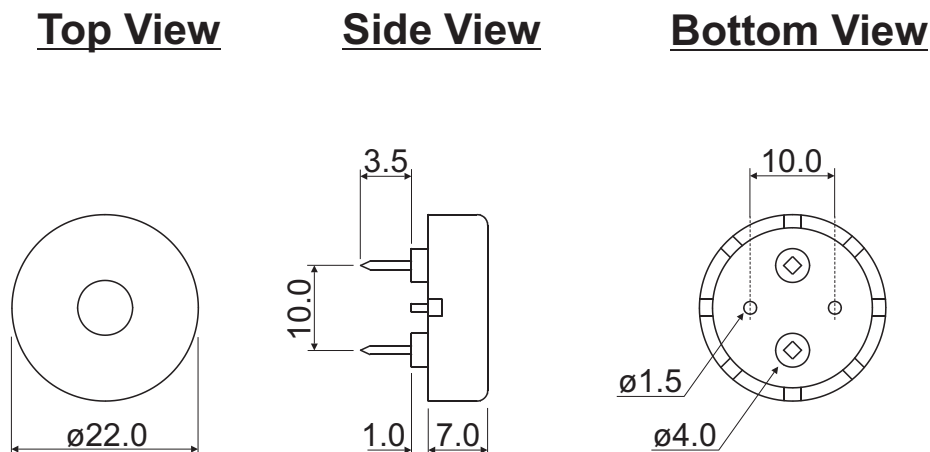

Figure 2. HPA22F Mechanical Layout
- 4.3.1. Layout and Dimension : See Section 6, Figure 2